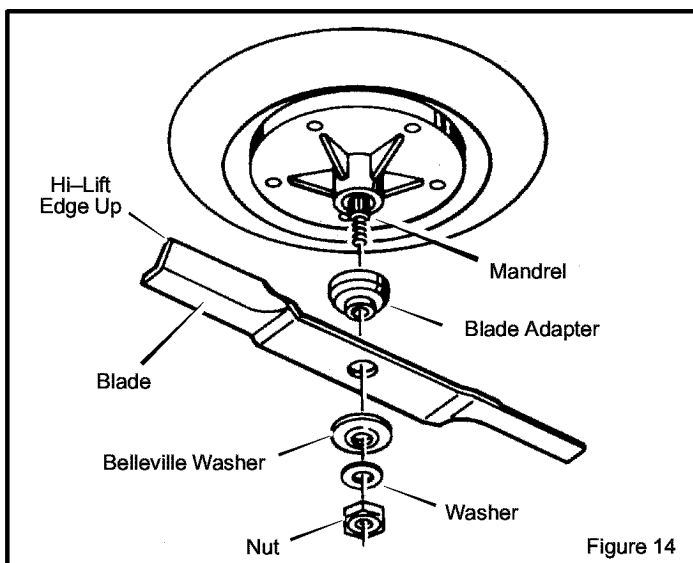

Figure 14
4. Remove the **nut, washers, and blade** (Figure 14).
7. Mount the **blade** and **blade adapter** on the **mandrel** (Figure 14).